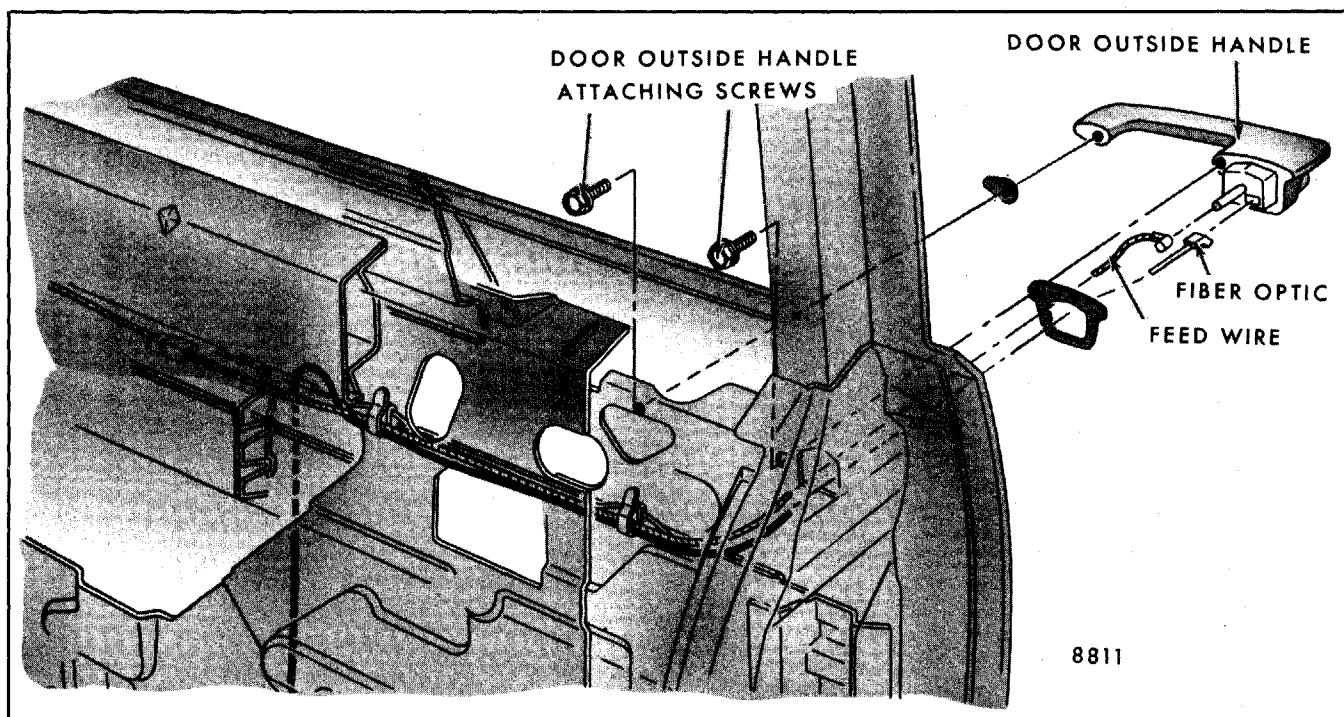

Fig. 5-46-Illuminated Lock Cylinder - B, C and K Styles (Push-Button Handle Shown)
- b. On styles with optional illuminated lock cylinder, disconnect fiber optic wire harness at door guard beam prior to removal of the handle (Fig. 5-46).